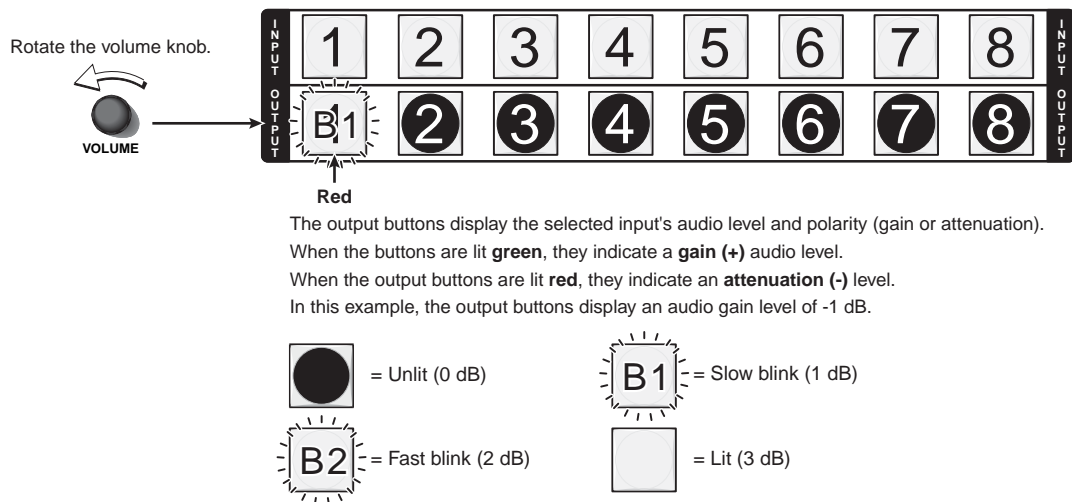

Figure 3-37 — Adjust the input audio level
4. Slowly rotate the volume knob counterclockwise (figure 3-37). Note the output button indication changes that occur as you rotate the knob.
Figure 3-37 shows the result of reducing the audio level a total of 9 dB. Note that the level is now displayed in red to indicate a negative level.